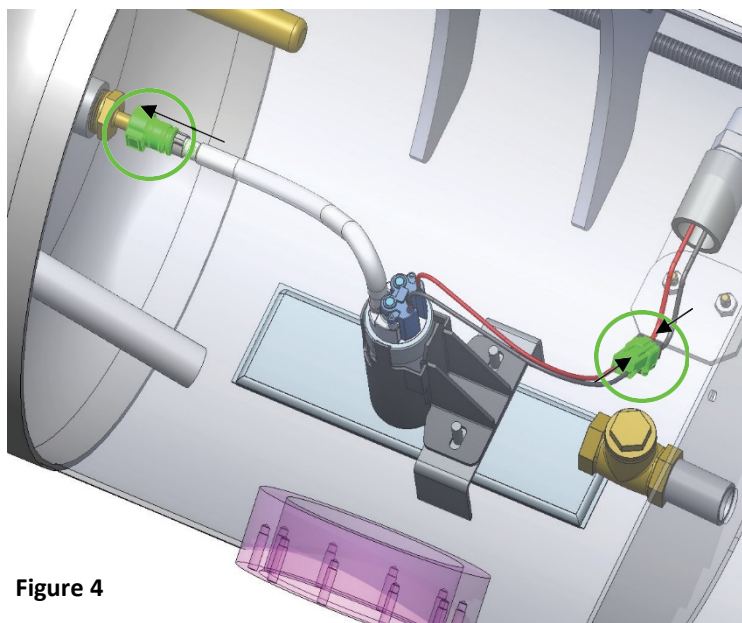

Figure 4
2. Connect the electrical connector to the new fuel pump. Connect the fuel pump quick connect fitting to the tank fitting. **Note: Ensure and audible click is heard also lightly pull on the hose to ensure the fitting is fully engaged.** (Figure4)